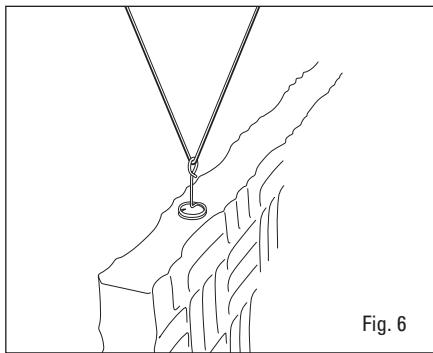
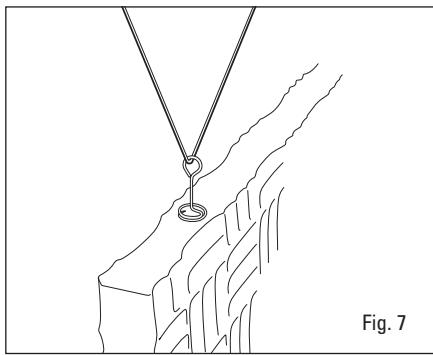

Fig. 6
Fig. 7
- C3. If installing SONEX® Valueline Baffles, slip the eye loop of the corkscrew over the cable (Figure 6). Turn the eye loops approximately $\frac{1}{4}$ turn counterclockwise so the eye loop is perpendicular to the baffle, locking the cable in place (Figure 7).